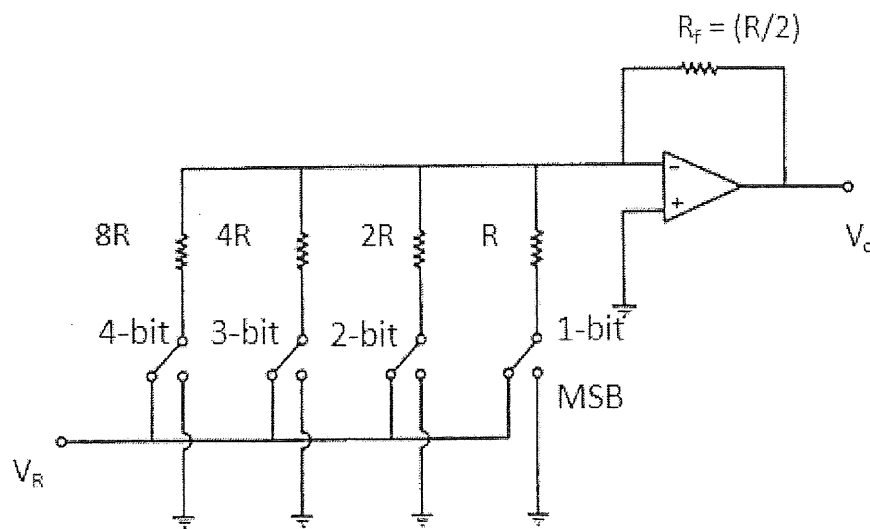

Figure 2
- f) An analog-to-digital converter (ADC) is a system that converts an analog signal into a digital signal. Calculate output voltage and current for a binary weighted resistor DAC of 4 bits in Figure 2.